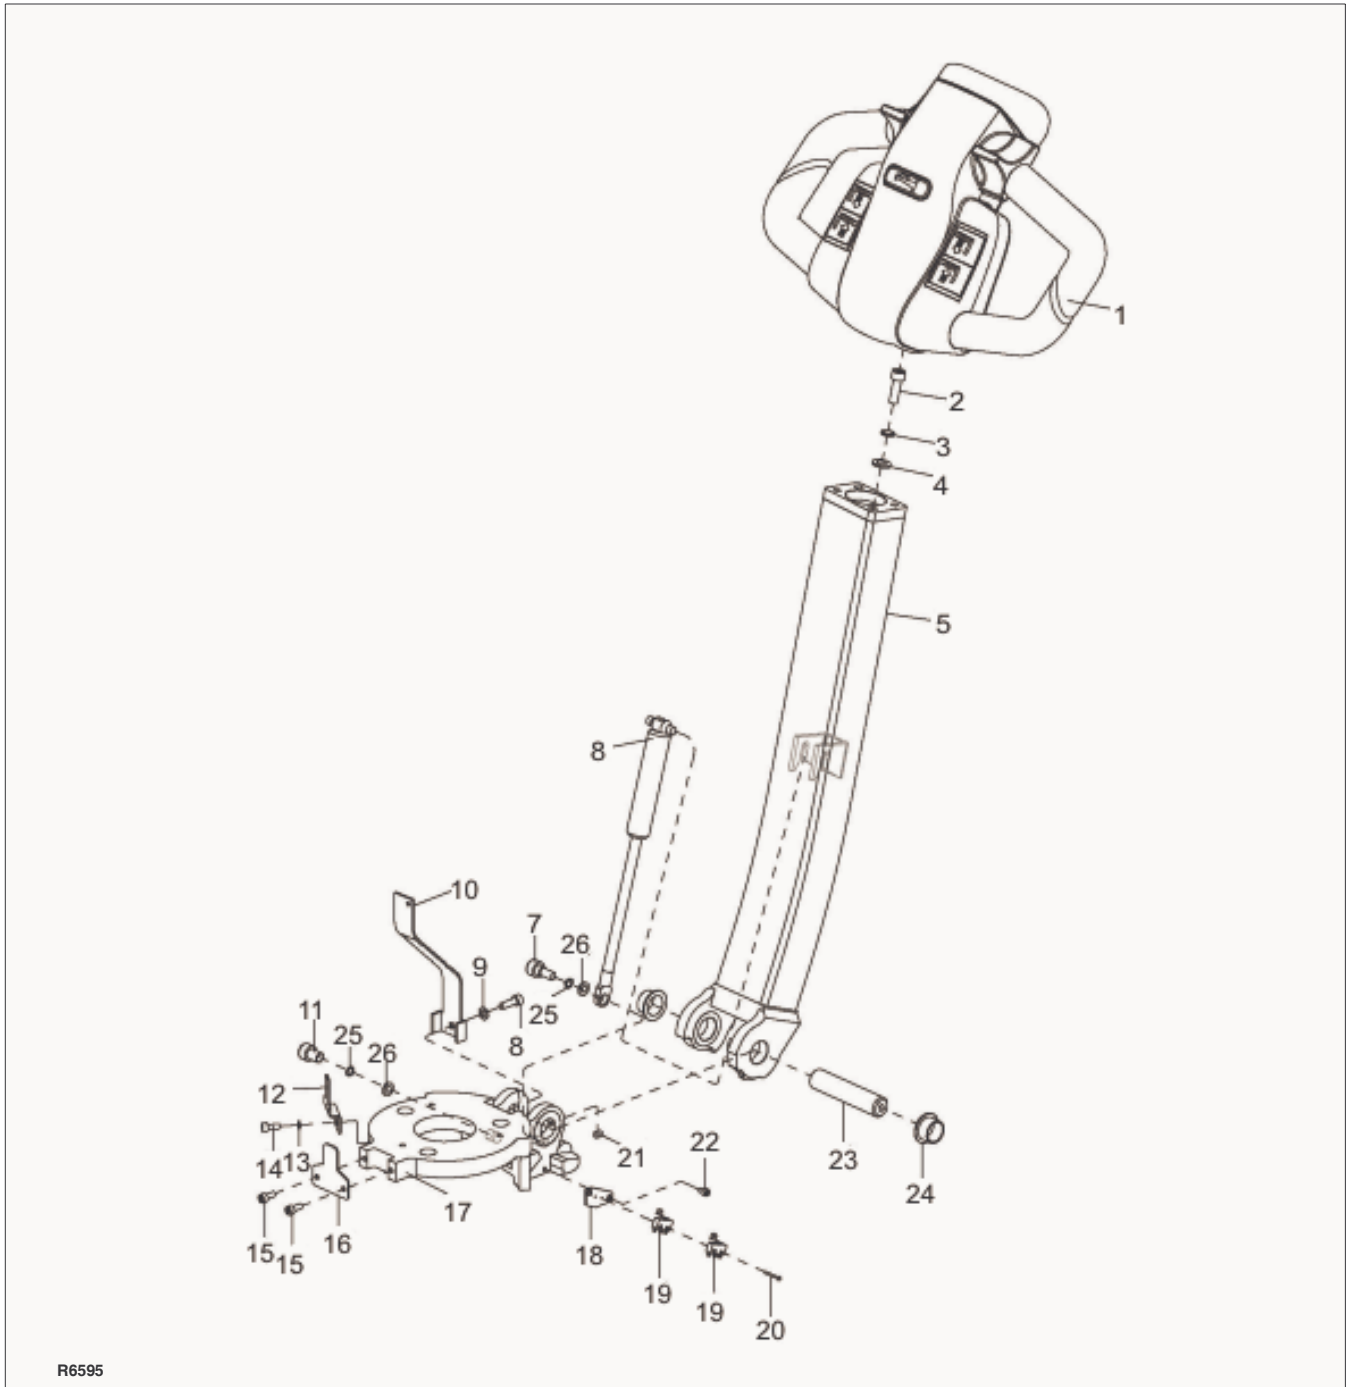

Figure 5-1 Steering Arm
2. Remove two screws (2, Figure 5-1), two washers (3) and two flat washers (4).
3. Install two screws (2, Figure 5-1), two washers (3) and two flat washers (4).
The steering arm gas return spring (6, Figure 5-1) is replaced while the steering arm (5) is in the upright position.
2. Secure the steering arm (5) in the upright position.
3. Remove screw (7), flat washer (25), washer (26) and free the gas return spring (6) from brake plate (16).
4. Pull downward on the gas return spring (6) to free it from its seat inside steering arm (5).
5. Position the new gas return spring (6) inside the steering arm being sure it fully engages its seat.
6. Position the opposite end of the gas return spring (6) on brake plate (16) and install screw (7), flat washer (25), washer (26).